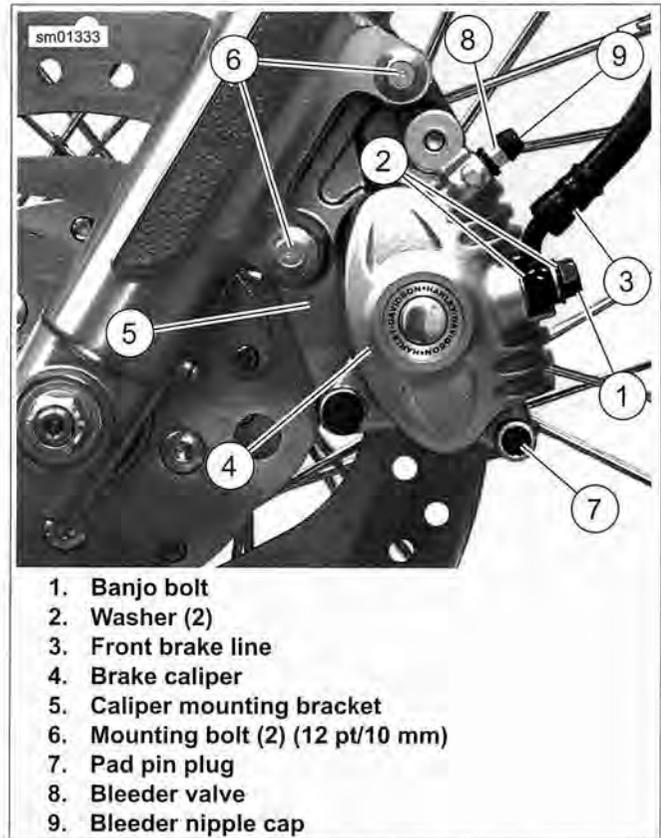
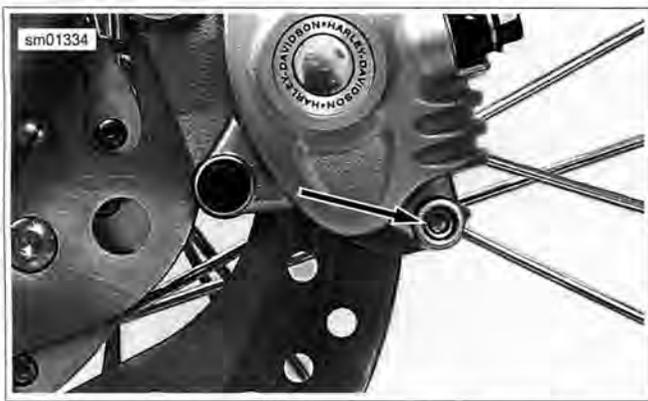

Figure 2-50. Front Caliper Assembly
Figure 2-52. Brake Pad Pin (Plug Removed)
1. See Figure 2-50. Remove bleeder nipple cap (9) from bleeder valve (8) on front brake caliper (4).
3. See Figure 2-50. Remove the banjo bolt (1) and both washers (2) to detach front brake line (3) from caliper (4). Discard washers.
4. Remove pad pin plug (7).
5. See Figure 2-52. Loosen, but do not remove, brake pad pin.
6. See Figure 2-50. Remove both mounting bolts (6) (12 pt/10 mm). Pull caliper and mounting bracket assembly rearward to disengage from brake disc.